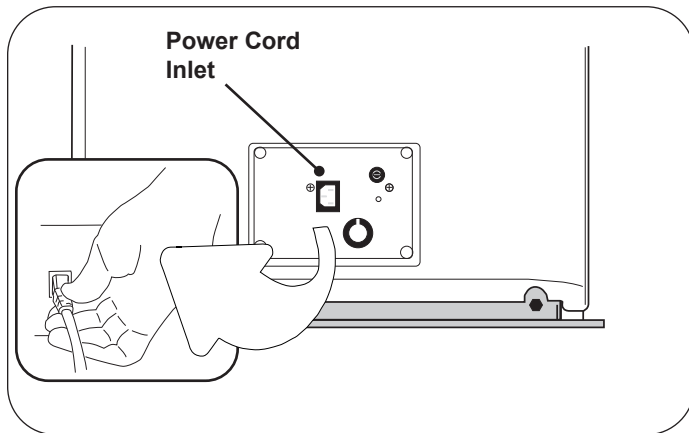

Figure 20. Power Cord Inlet
2. Insert the female plug end of the power cord into the receptacle on the table. Make sure the plug is fully seated (Figure 20).